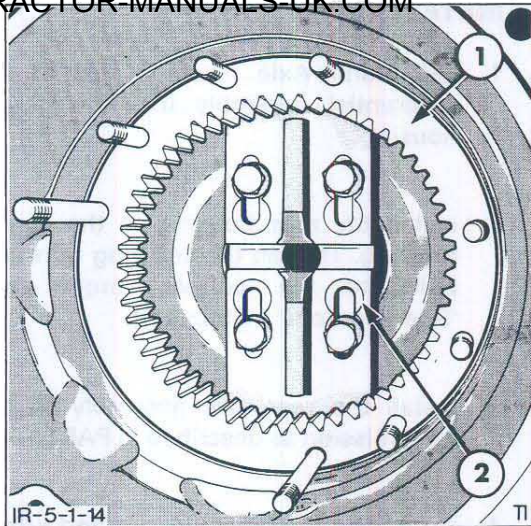
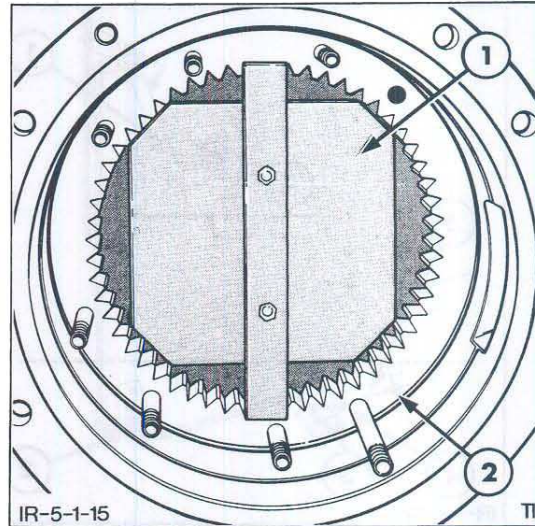

Figure 14
Figure 15
- b. Position Tool No. FT4500 behind the ring gear, expand the movable plates and tighten the four locknuts, Figure 14. If tool 2122 is used position the tool behind the ring gear and tighten the retaining nuts, Figure 15.